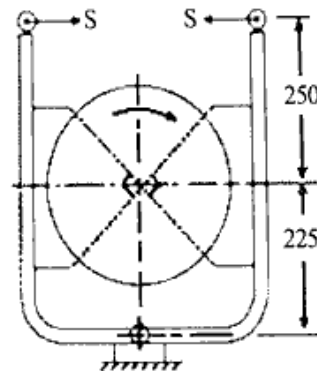

Figure 1
7. The layout and dimensions of a double shoe brake is shown in Fig. 1. The diameter of the brake drum is 300 mm and the contact angle for each shoe is 90° . If the coefficient of friction for the brake lining and the drum is 0.4, find the spring force necessary to transmit a torque of 30 N-m. Also determine the width of the brake shoes, if the bearing pressure on the lining material is not to exceed 0.28 N/mm^2 . 14